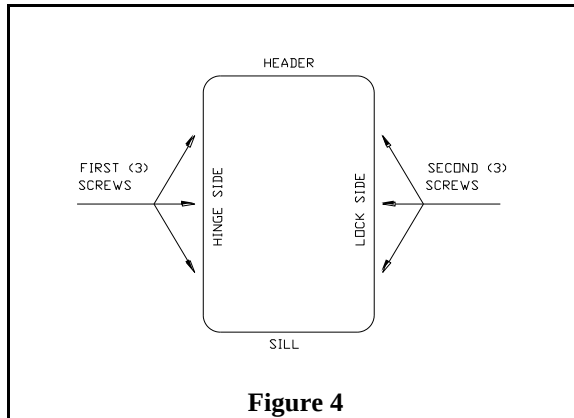

Figure 4
9. Fasten the door with screws through the holes in the flange. Drive the first three (3) screws in the middle holes on the hinge side of the frame. Drive the next three (3) screws in the middle holes on the lock side of the frame. Then finish attaching the hinge side of the flange, followed by the lock side, and then the header. Screws should be driven in straight. (See Figure 4)